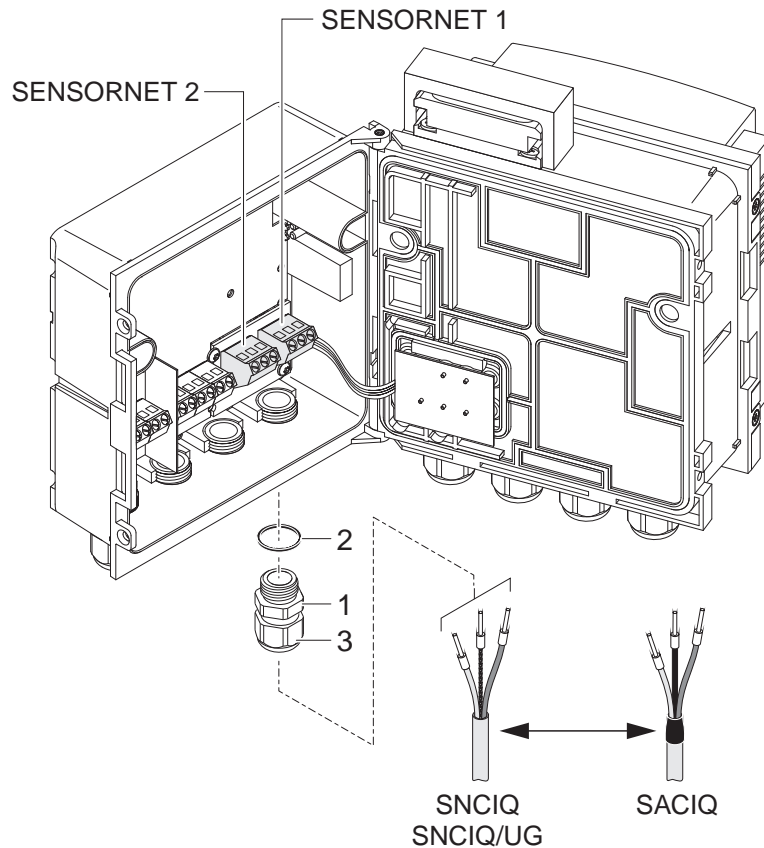

Fig. 3-13 Connect cable (example: rear terminal strip)
3	Screw a cable gland (pos. 1 in Fig. 3-13) with the sealing ring (pos. 2) into the enclosure.
4	Loosen the coupling ring (pos. 3 in Fig. 3-13).
7	Tighten the coupling ring (pos. 3 in Fig. 3-13).